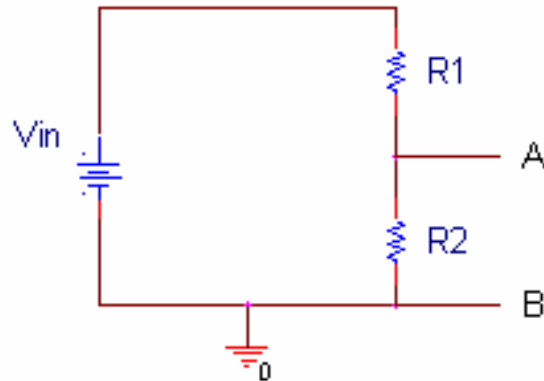

Figure B-5
- Apply the 10 Volts from the DC power supply to the two 1 k ohm resistors connected in series, as in figure B-5: